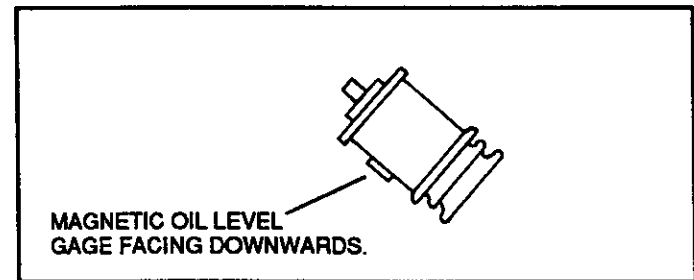

Figure 3C: Orientation of magnetic oil level gage on bushing rated 500 kV and above when mounted at an angle.
- For mounting the bushing at an angle, raise or lower the crane hooks to get the desired angle. These bushings are provided with a magnetic oil level gage. The bushing should be mounted with the gage facing downwards as shown in Figure 3C for proper oil level indication.